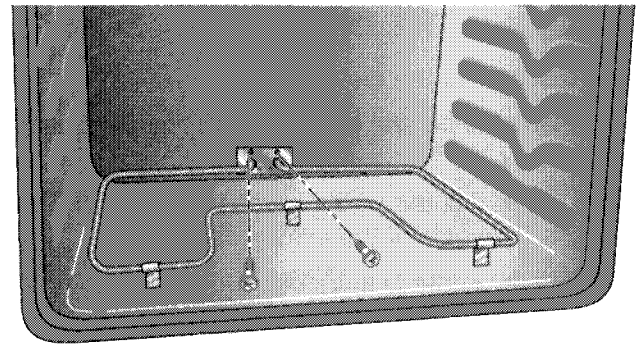

Fig. 8
2. Remove the two (2) screws securing the bake element to the rear wall of the oven cavity. (Fig. 8)
3. Carefully pull the bake element forward far enough to access the wiring harness connectors and remove the connectors from the bake element terminals. (Fig. 8)